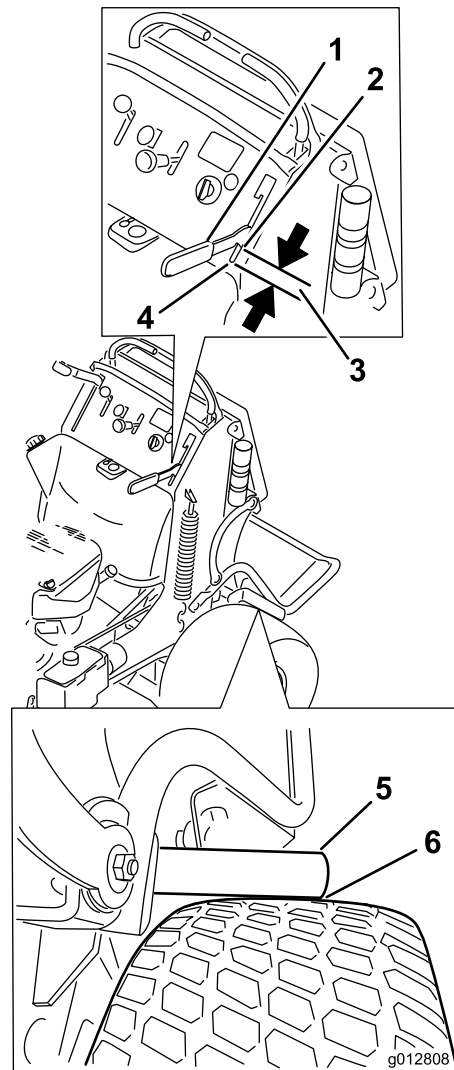

Figure 62
4. Engage the brake lever until the brake bars first contact the tire (Figure 62).
5. Measure the gap from the front of the hand lever to the end of the slot in the control panel when the brake bar contacts the tire. This measurement needs to be 3/4 inch (19 mm). Adjust the brake if needed (Figure 62).